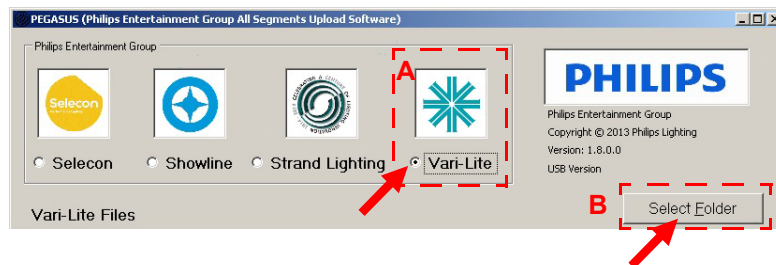

Figure 3-10: PEGASUS Software Selection Screen
- Select Vari-Lite for luminaire type (as shown in Figure 3-10).
- As indicated in Figure 3-10, click on **Select Folder** button to open browser window.